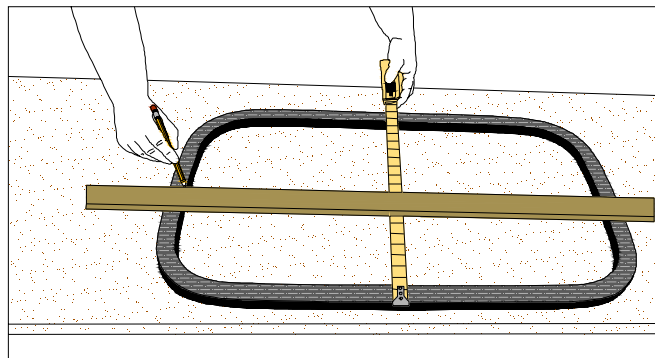

Figure 26A
- Measure the ring in both directions. (FIG 26A)